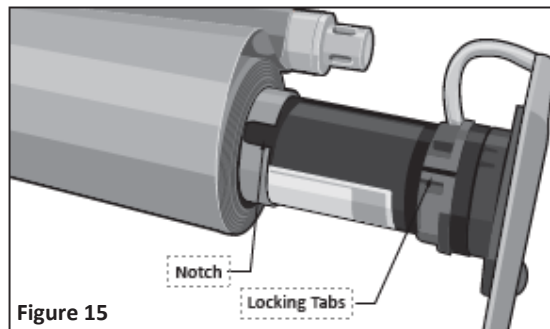

Figure 15
22. Slide the motor into the end of the roller bar, aligning the motor with the notch cut in the end of the roller bar. See **Figure 15**.